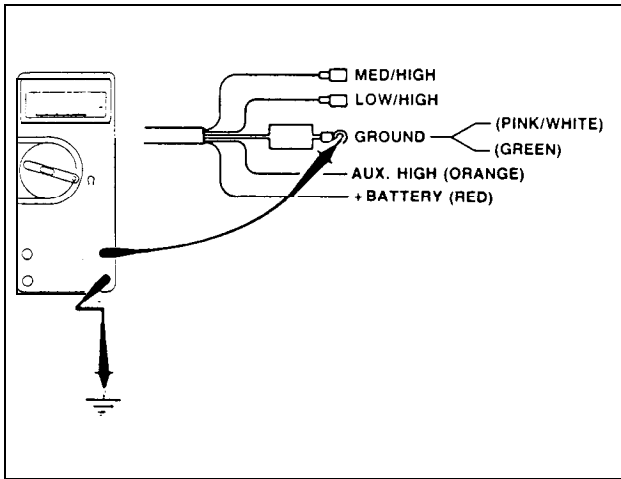

FIG. 1.1.35
**Correction:** ABS connection LOW: pink/white wire is, for most applications, connected to ground with the green wire. If not connected to ground, brakes will not operate. VOM reading when not connected should be +5 VDC (Fig. 1.1.35).